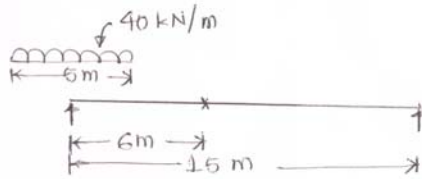

Fig. 5
- (b) A simply supported beam has a span of 15 m, subjected to UDL of 40kN/m and 5 m long crosses the girder from left to right (Refer Fig. 5). Calculate maximum shear force at 6 m from left support. **07**
- (b) A simply supported beam has a span of 15 m, subjected to UDL of 40kN/m and 5 m long crosses the girder from left to right (Refer Fig. 5). Calculate maximum bending moment at 6 m from left support. **07**